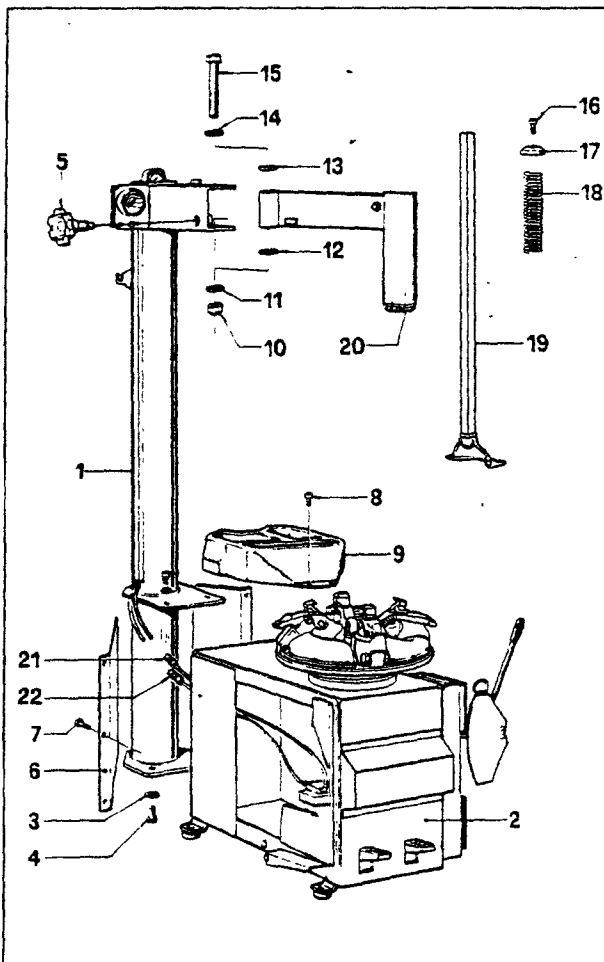

Fig.6
B. Attach the column #1 (Fig.6) to the cabinet #2 with the screws #4 and washers #3. The screws must be firmly tightened.